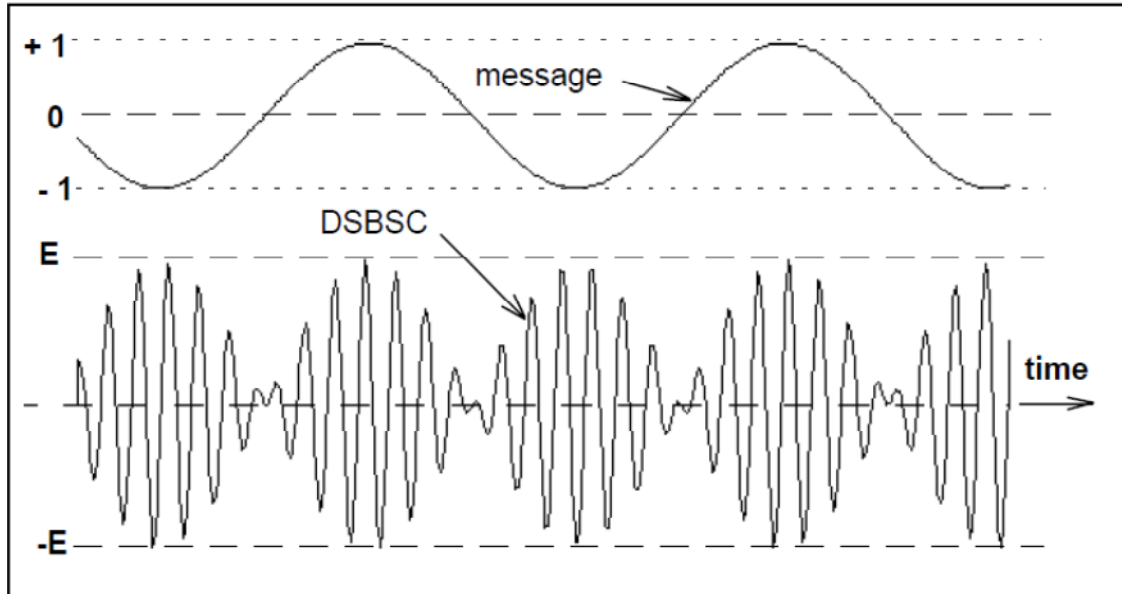

Figure 2: DSBSC - seen in the time domain
The time domain appearance of a DSBSC (eqn. 1) in a text book is generally as shown in Figure 2.
Notice the waveform of the DSBSC in Figure 2, especially near the times when the message amplitude is zero. The fine detail differs from period to period of the message. This is because the ratio of the two frequencies μ and ω has been made non-integral. Although the message and the carrier are periodic waveforms (sinusoids), the DSBSC itself need not necessarily be periodic.
- (e) The 180 phase reversal causes the positive (or negative) side of the envelope to have a shape different from that of the message signal, see Figure 2.